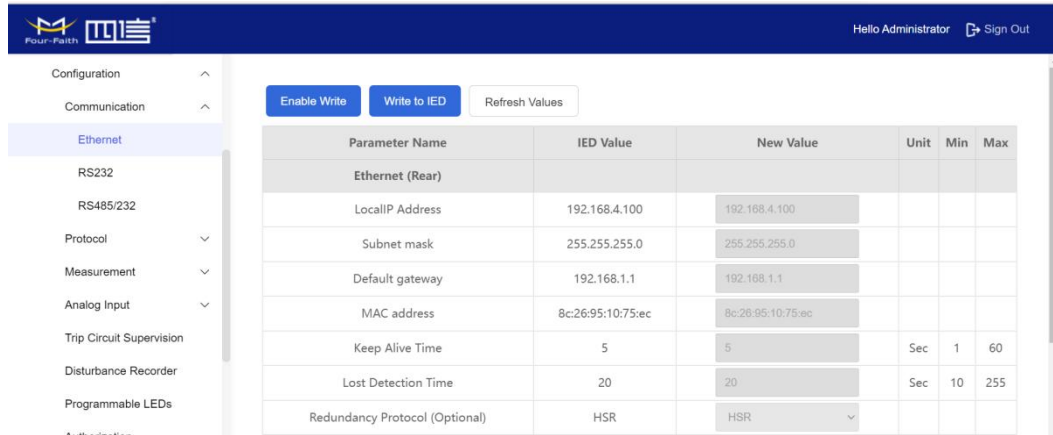

Figure 40
- 5) Click the “Communication” and parameter settings window will popup where it is possible to edit. (Figure 40)